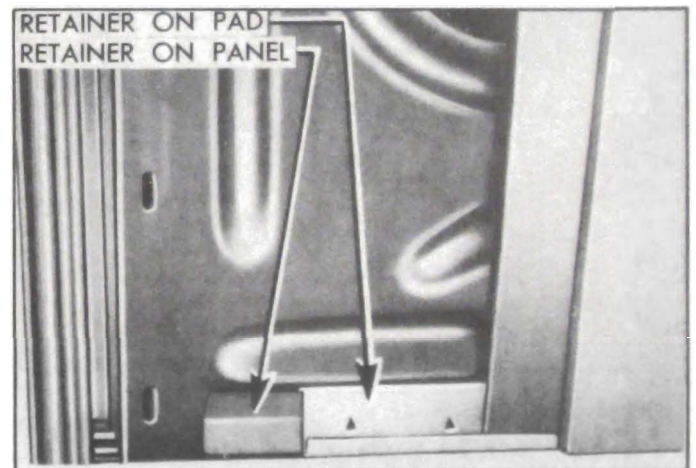

Figure 13-44—Retainers at Lower Edge of Trim Pad
3. Be sure to hook the metal retainer on lower edge of trim pad over the retainer on door inner panel. See figure 13-44.